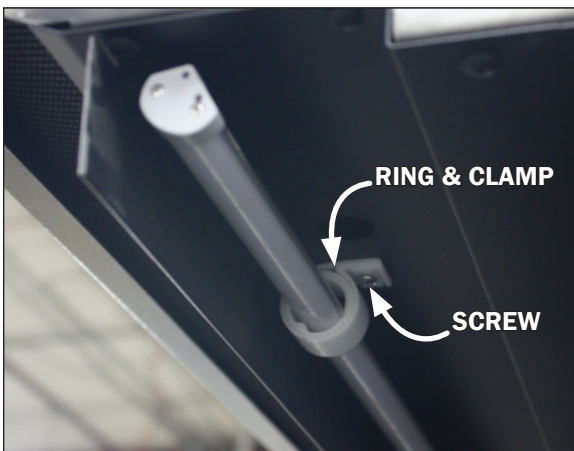

Fig. 13 LED light & ring/clamp
2. Remove the screws from the light clamps (Fig. 13) while keeping ahold of the light. Once the screws are removed the light rod will come away from the case with the clamps still holding to the light.